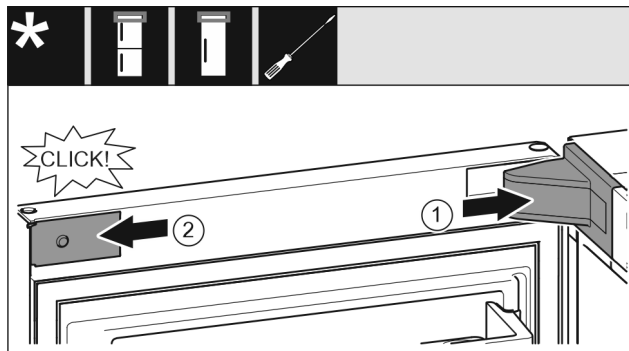

Fig. 42
- ▶ Put the swap bearing block cover *Fig. 42 (1)* on and engage, push apart carefully if required.
- ▶ Place the trim *Fig. 42 (2)* on the side and engage.